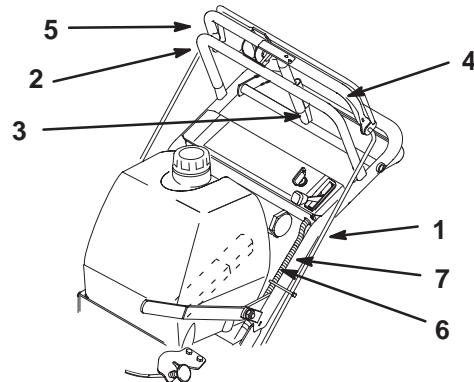

Figure 7
3. Check the gap between upper control bar and fixed bar with wheel drive fully engaged. Gap should be approximately 1 to 1-1/4 inch (25–32 mm) (Fig. 7).
1. Route the throttle cable inside the left side of the upper handle, under the fuel tank support, and to the left of the engine (Fig. 7).